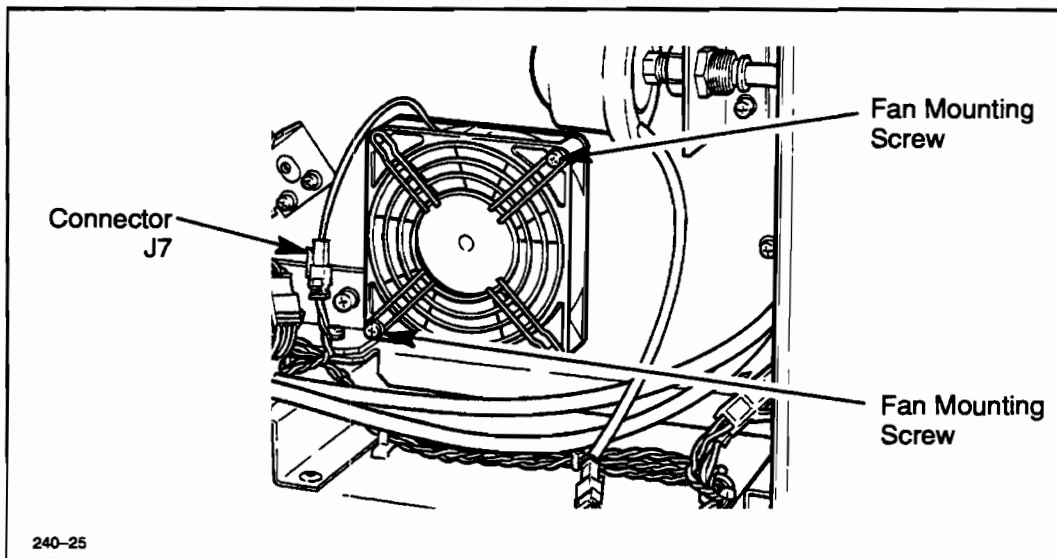

Figure 6-45. Fan 1 Removal
3. Disconnect the fan wires at the connector (J7). See Figure 6-45.